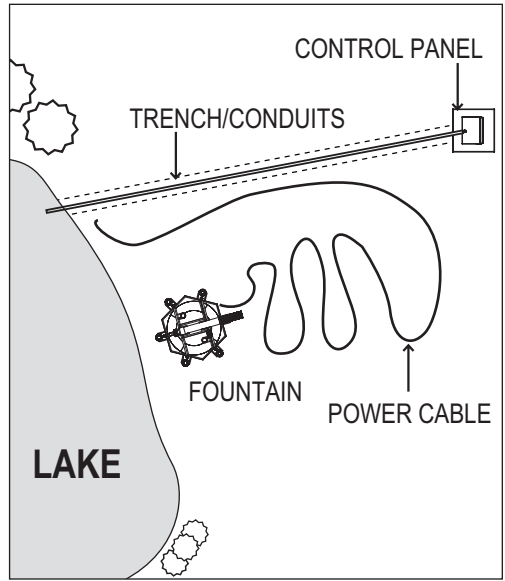

Fig.1
- Uncoil submersible power cable along lake's bank in a loose serpentine fashion to avoid kinking and facilitate eventual pull into lake. (Fig.1)